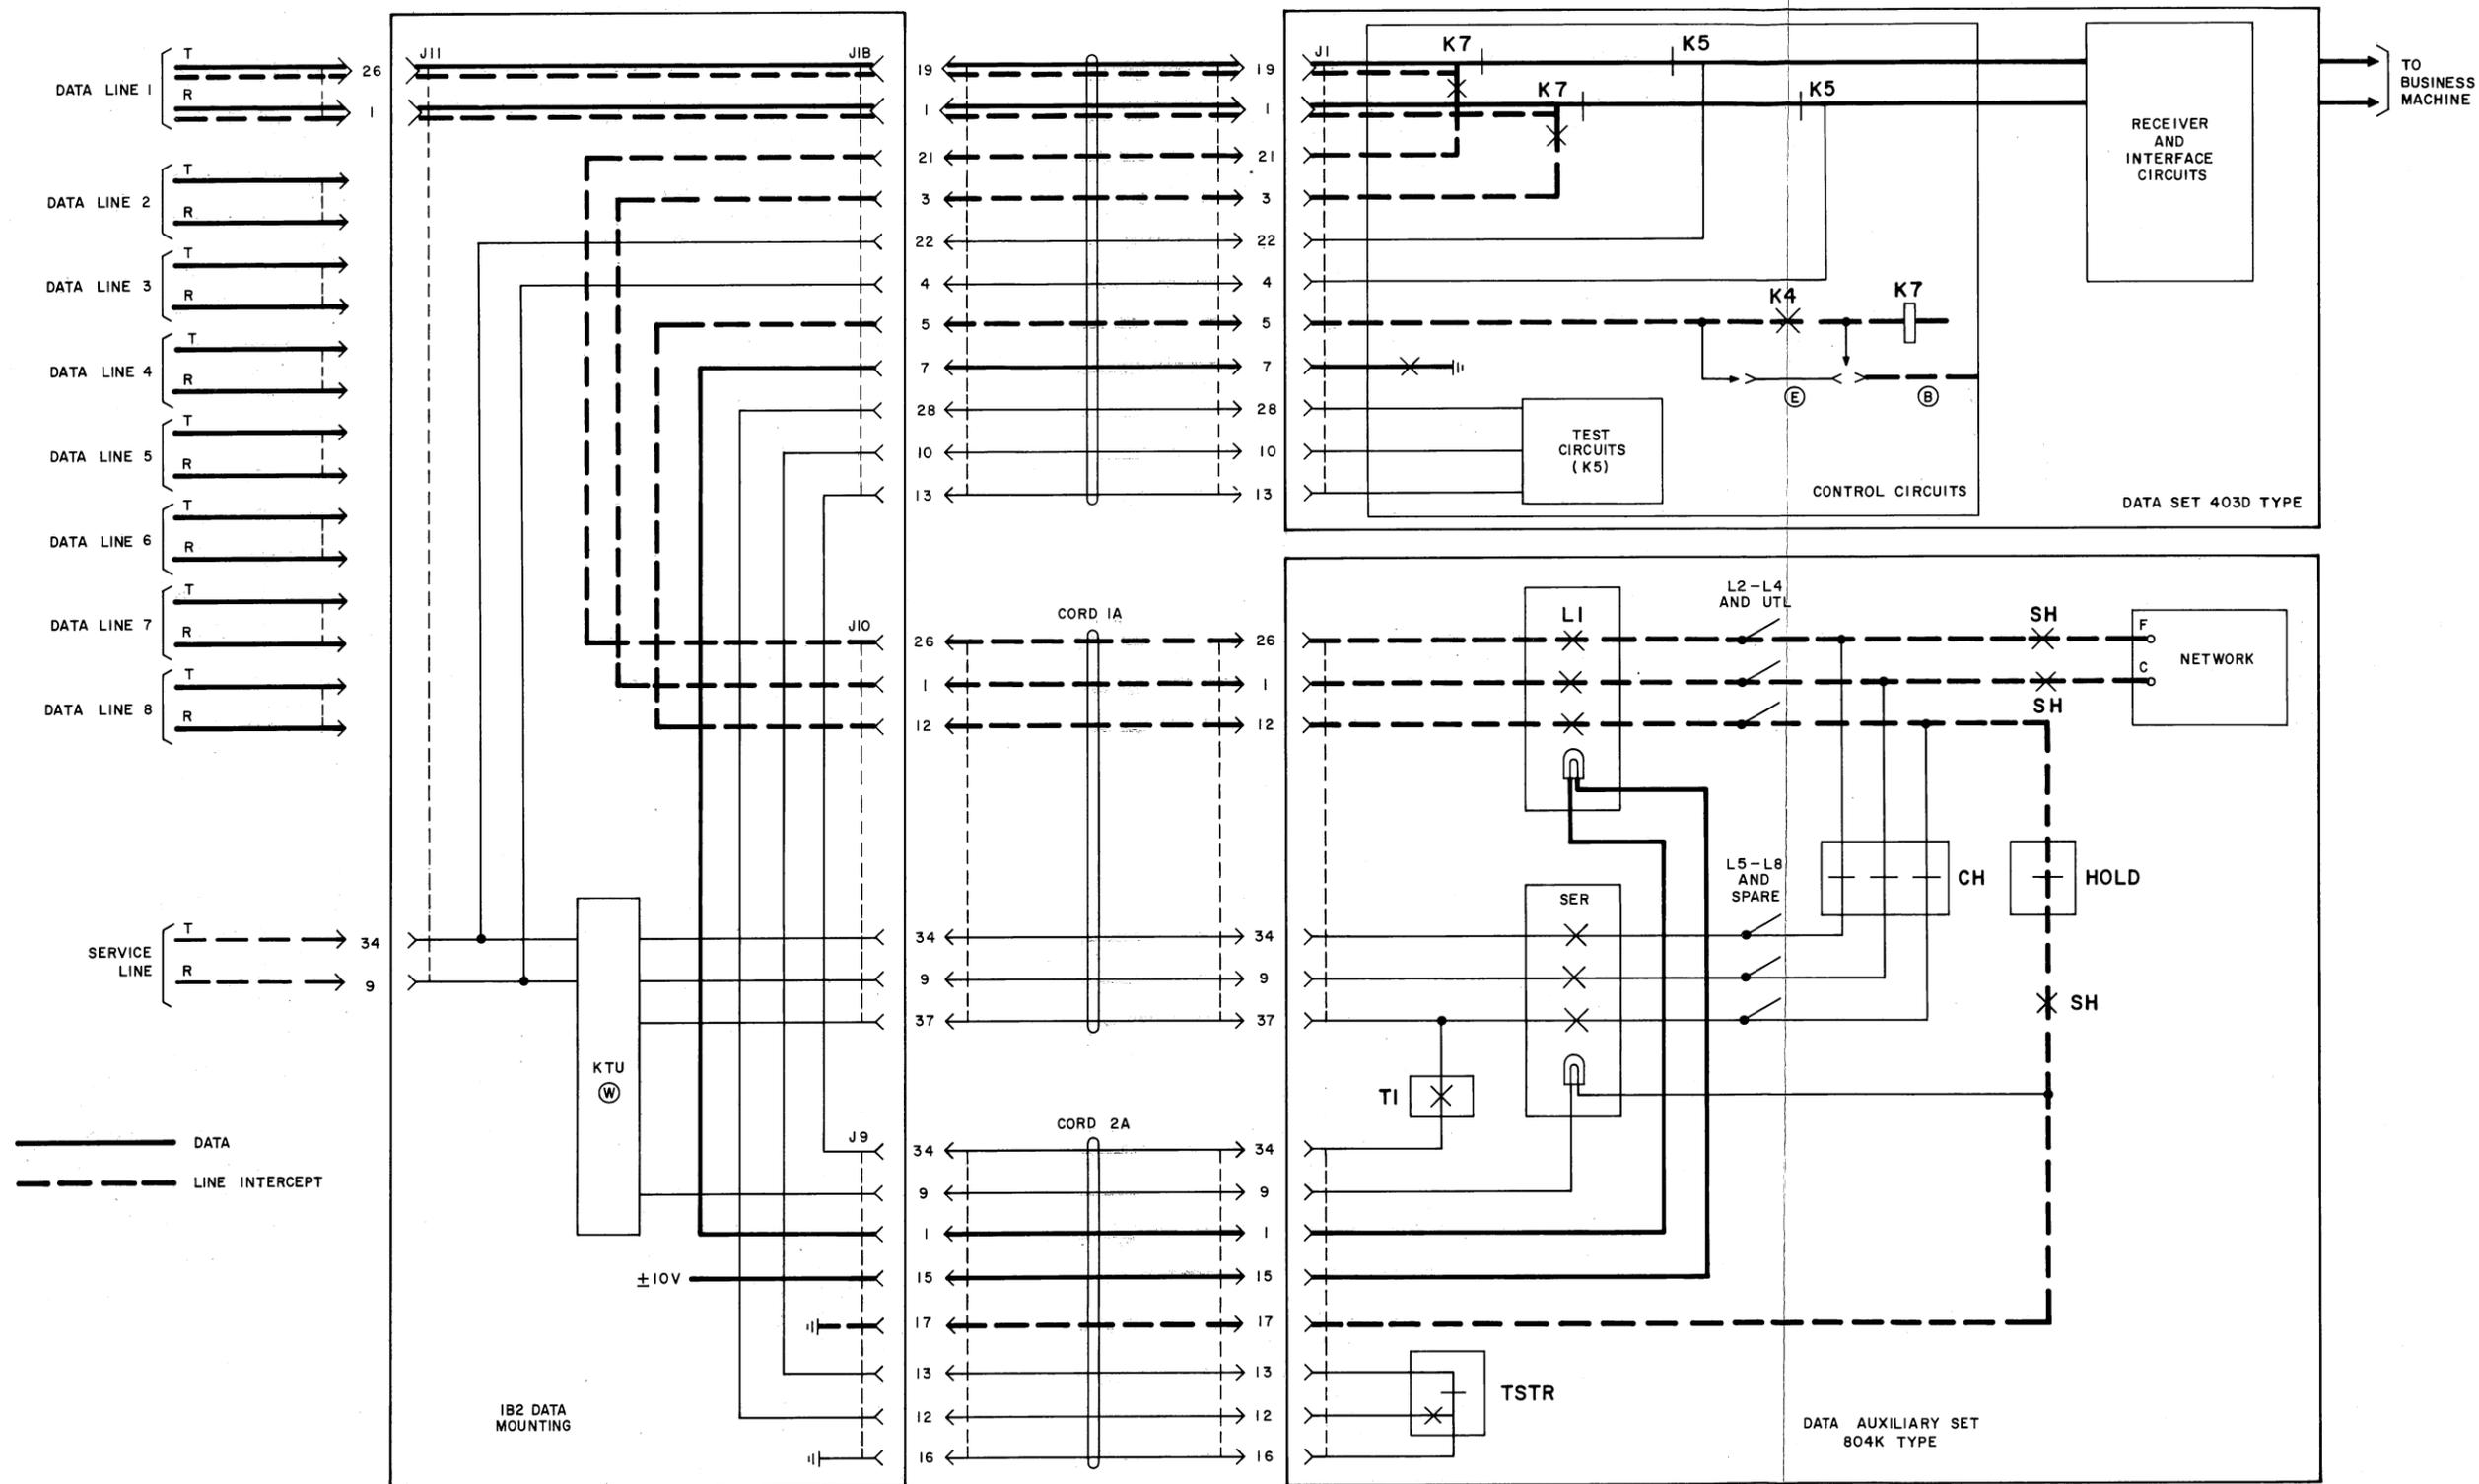

Fig. 4—Data Auxiliary Set 804K Type Functional Block Diagram of Data Line and Line Intercept
3.02 This is the most common operating mode of the data set. Fig. 4 illustrated by the heavy weight lines that data entering on data line 1 is connected directly to Data Set 403D-type through T and R terminals of the 1B2 Data mounting. The data mode is indicated by the heavy weight line to the LINE lamp in Data Auxiliary Set 804K.
3.04 The attendant at the receiving station, upon observing the flashing LINE lamp, removes the handset from the cradle of Data Auxiliary Set 804K-type and depresses the flashing line button (Fig. 4). This action causes the LINE lamp to go steady and causes the K7 relay to switch the data line from the data set to the data auxiliary set
(See heavy weight dash lines Fig. 4). If attendant control is provided it is not necessary for the LINE lamp to be flashing. Depressing the LINE key and removing the handset from the switch-hook cradle at any time will produce intercept for talk.